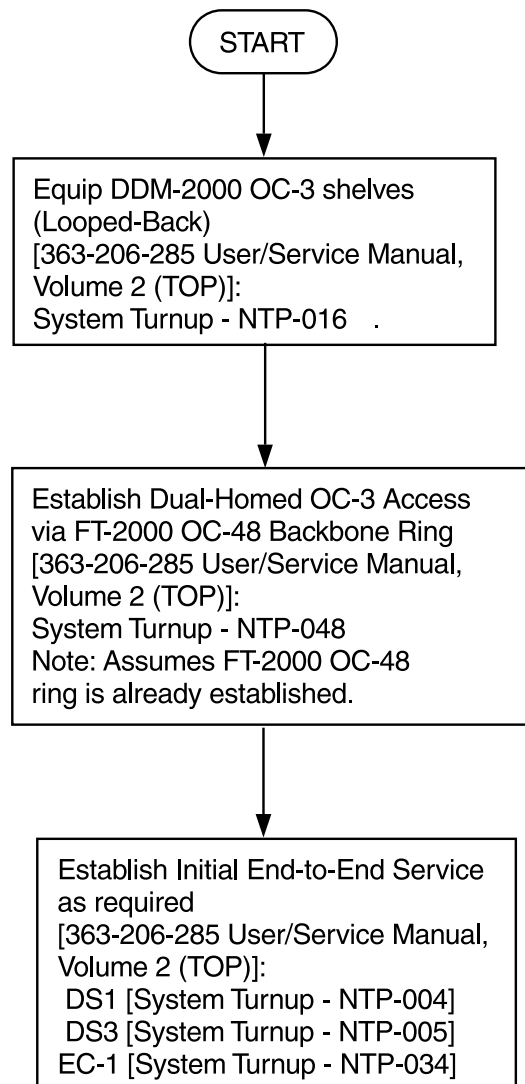

Figure 26. DDM-2000/FT-2000 Large Network Configurations — Dual-Homed OC-3 Access via FT-2000 OC-48 Backbone Ring
- Figure 26 Dual-Homed OC-3 Access via FT-2000 OC-48 Ring